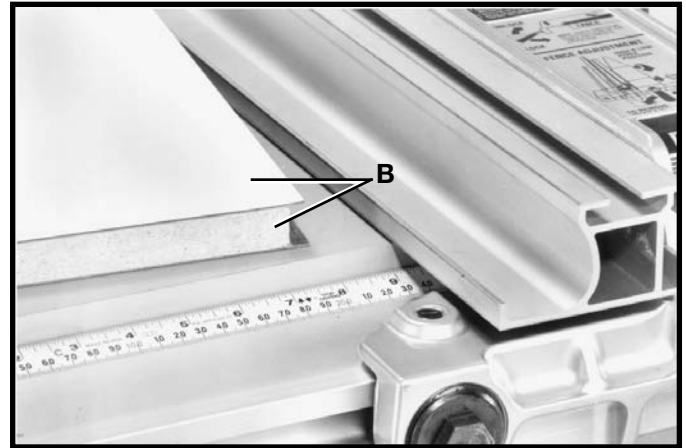

Fig. 128
5. When ripping material with a veneer facing and the material is not thick enough for the veneer to extend over the lip of the fence, or if the veneer facing (B) is on both sides of the material, (Fig. 128), the fence can be positioned slightly above the surface of the table. The veneer can be placed between the fence and the table or the veneer can straddle the fence with the material solidly against the fence, as shown.